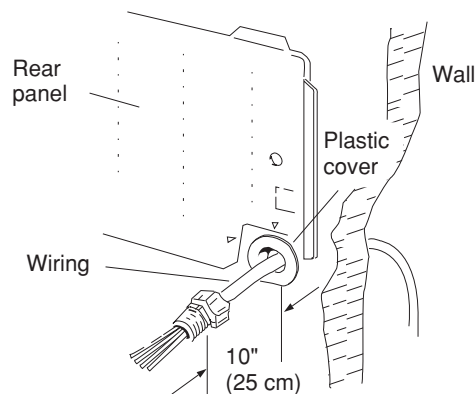
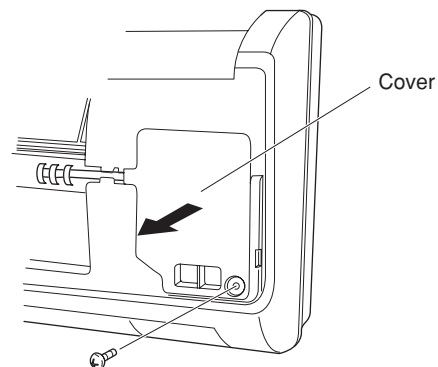

Fig. 24
Fig. 25
- (1) Insert the inter-unit wiring (according to local codes) into the through-the-wall PVC pipe. Run the wiring toward the indoor side allowing approx. 10" (25 cm) to extend from the wall face. (Fig. 24)
- (2) Grasp both ends of the air intake grille, and remove it by opening towards the front and pulling towards you.
- (3) Remove the screw on the right side cover plate and open the cover. (Fig. 25)